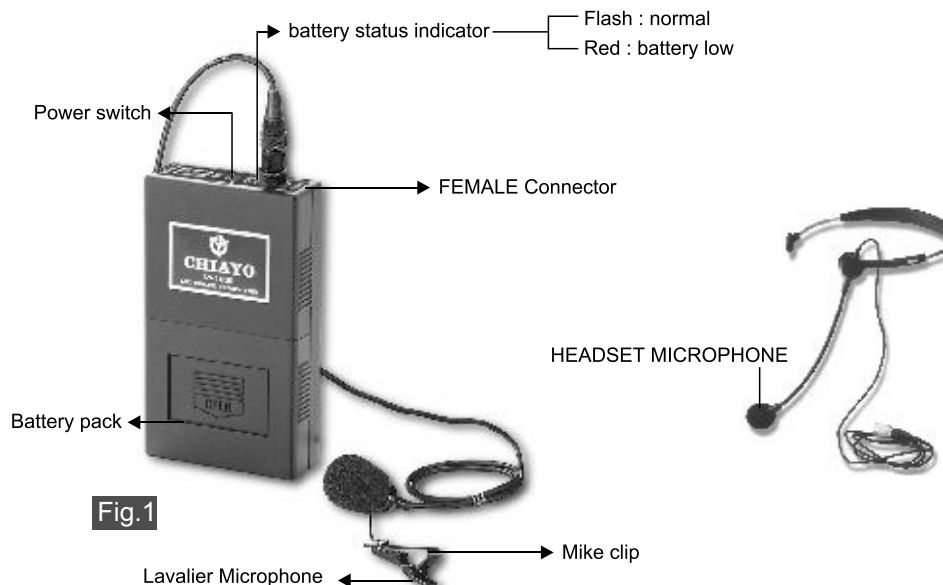

Fig.1
1. The Belt-Pack transmitter is shown in Fig.1.